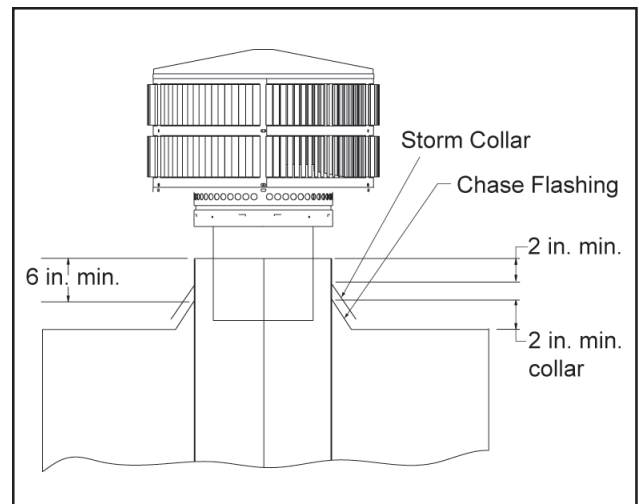

Figure 15 - Installing a TR344 Round Termination Cap
- a. Install the chimney sections up through the ceiling/roof. When using the TR344 round termination cap, the uppermost section of pipe must extend 6" above the roof to allow installation of the storm collar and termination cap. See Figure 15.